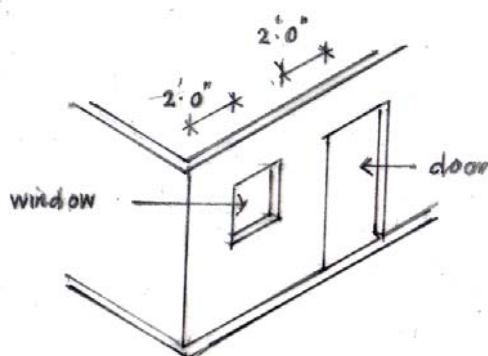

Fig 10- Positioning Door/Window opening
- Made sure that door and window or other openings on external walls are positioned at least 2' – 0" away from corners of walls or other adjacent openings. This requirement applies in all buildings located in disaster-prone areas (See Fig. 10)